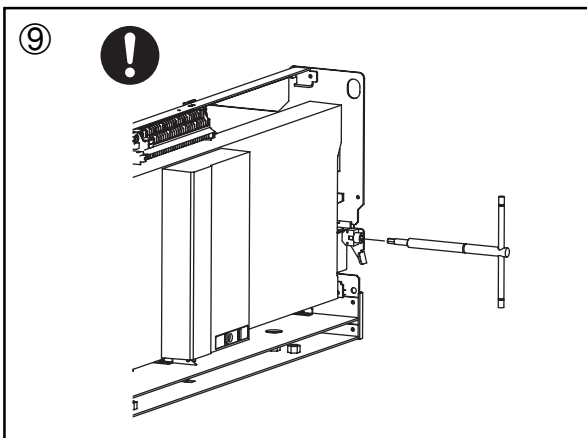

Fig. 12-5
⑨ For the AE4000 ~ 6300-SW series (See Fig. 12-5), shall be sure to tighten the screws on both sides to secure the breaker.